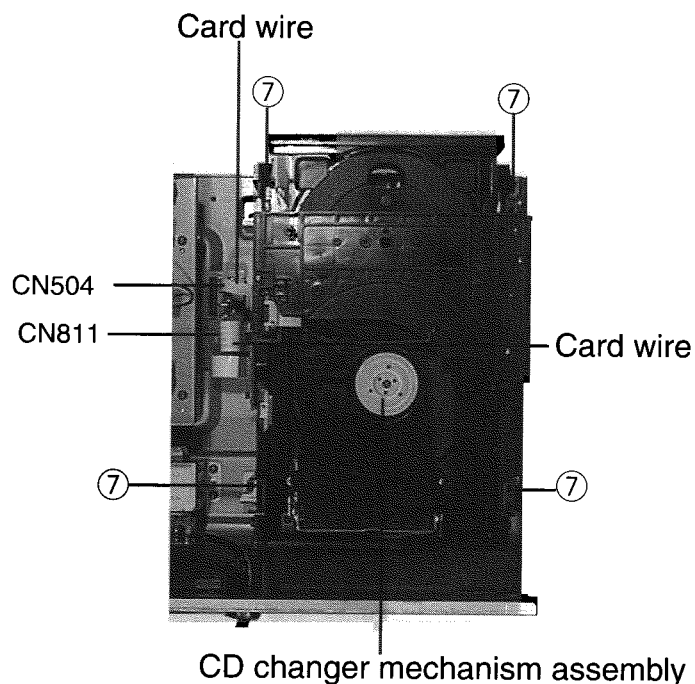

Fig. 9
■ Removing the CD Changer Mechanism Assembly (See Fig. 9)
3. Remove the four screws ⑦ retaining the CD changer mechanism assembly.